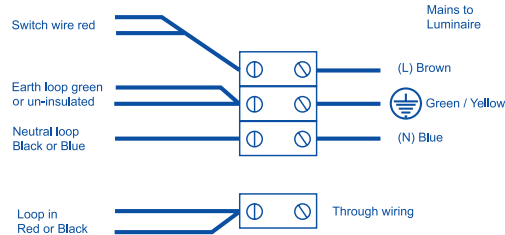

Fig. 1
5. The "looping-in" of the fixed wiring supply should be maintained. (See Fig.1)